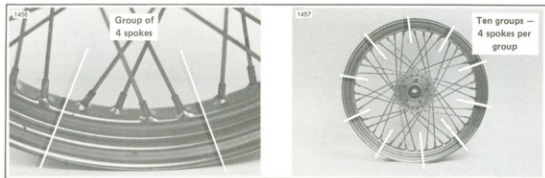

Figure 2-21. Grouping the Spokes
- See Figure 2-21. The rim is divided into ten groups of spoke holes, 4 holes to a group. Each group has two holes on the left and two holes on the right, angled inward towards each other. Only one hole in each group will be angled toward the bottom flange inner spoke (long-head). Lace all bottom flange inner spokes into these holes. Secure each spoke with a nipple screwed on the end about 3 turns.